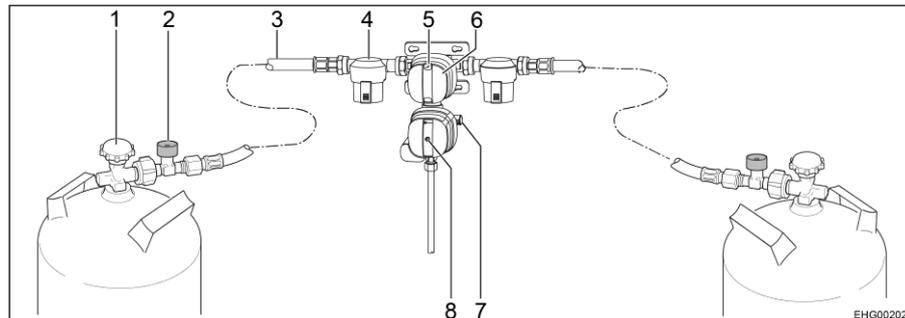
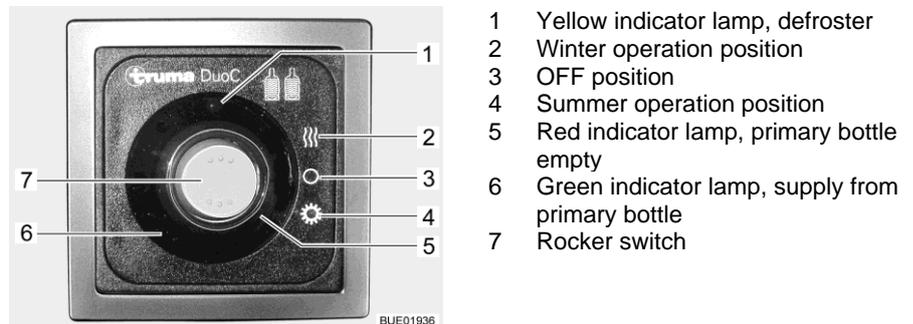

Fig. 126 Safety gas pressure regulating system DuoControl CS
Fig. 127 Operating unit (DuoControl)
The DuoControl regulating system consists of a reversing valve and a crash sensor. The DuoControl regulating system is installed between the high-pressure hoses (Fig. 126,3) with hose break guard (Fig. 126,2). The knob (Fig. 126,6) on the reversing valve is used to select which of the gas bottles is to be used as primary bottle and which is to be used as reserve bottle.
The status of the gas supply is indicated in the inspection window (Fig. 126,5):
Crash sensor The crash sensor blocks the gas supply in the event of a significant impact (e.g. accident). The situation of the yellow reset button (Fig. 126,8) indicates the operating status of the crash sensor:
- If the yellow reset button (Fig. 126,8) is in the pressed-in position, the crash sensor is ready to operate.
- If the yellow reset button (Fig. 126,8) is protruding, the crash sensor is **not** ready to operate. Putting into operation, see below.
Hose break guard The hose break guard (Fig. 126,2) blocks the gas flow if the connected hose breaks. The hose break guard must be activated by pressing the green button.
Operating unit The operating unit shows the status of the primary bottle. When the green indicator lamp (Fig. 127,6) illuminates, the primary bottle is full. When the red indicator lamp (Fig. 127,5) illuminates, the primary bottle is empty. In this case, the reserve bottle is used for the gas supply.
If the heater of the DuoControl regulating system (defroster) is active, the yellow defroster indicator lamp (Fig. 127,1) is lit.
In addition, the operating unit (Fig. 127) is also used to set summer operation or winter operation.
Setting summer operation: ■ Press lower part of the rocker switch (Fig. 127,7) (summer operation position (Fig. 127,4)).
Setting winter operation: ■ Press upper part of the rocker switch (Fig. 127,7) (winter operation position (Fig. 127,2)).
- Use the knob (Fig. 126,6) on the reversing valve to select the gas bottle which is to be the primary source of gas (primary bottle). Always turn the knob as far as it will go.
- Open regulator taps (Fig. 126,1) on the gas bottles.
- Press and hold the green button of the hose break guard (Fig. 126,2) for about 5 seconds. The green marking is shown in the inspection window (Fig. 126,5).
- If the crash sensor has triggered (the yellow reset button (Fig. 126,8) is protruding):
Press the yellow reset button (Fig. 126,8) in forcefully, turn it slightly in a clockwise direction and hold it for about 5 seconds. Make sure that the reset button remains in the pressed-in position ("ready for operation"). If it is not possible, reset the system as described: Use the Torx insert T20 on the included screwing aid to strengthen the rotary movement.
- Set the rocker switch (Fig. 127,7) to the OFF position (Fig. 127,3). The indicator lamps go out.
- Close regulator taps (Fig. 126,1) on the gas bottles.
If the green indicator lamp (Fig. 127,6) goes out during operation and the red indicator lamp (Fig. 127,5) lights up, the primary bottle is empty and must be changed. The red marking is shown in the inspection window (Fig. 126,5) of the associated gas bottle. The reserve bottle continues supplying the gas appliances with gas.
- Turn the knob (Fig. 126,6) as far as it will go in the direction of the gas bottle currently used. In this way, this gas bottle is the primary bottle now, and the empty gas bottle becomes the reserve bottle. The marking in the inspection window (Fig. 126,5) changes from red to green.
- Close regulator tap (Fig. 126,1) on the empty gas bottle. Pay attention to the direction of the arrow.
- Press the green button of the hose break guard (Fig. 126,2).